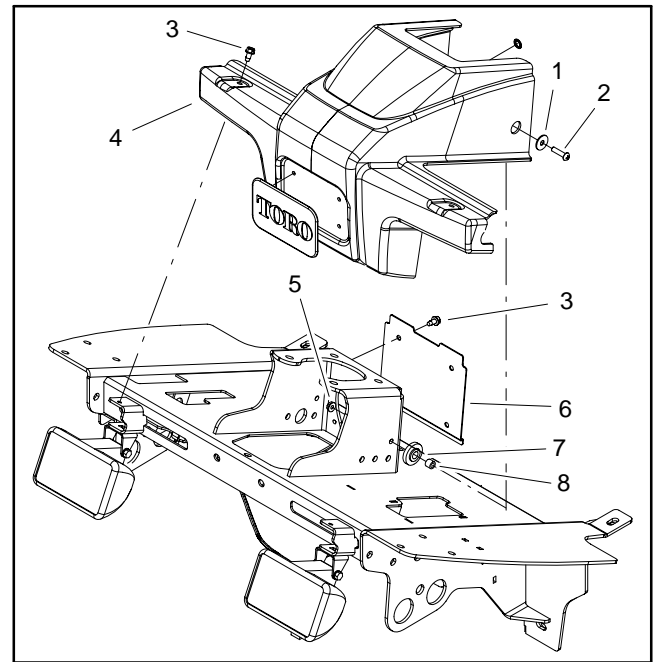
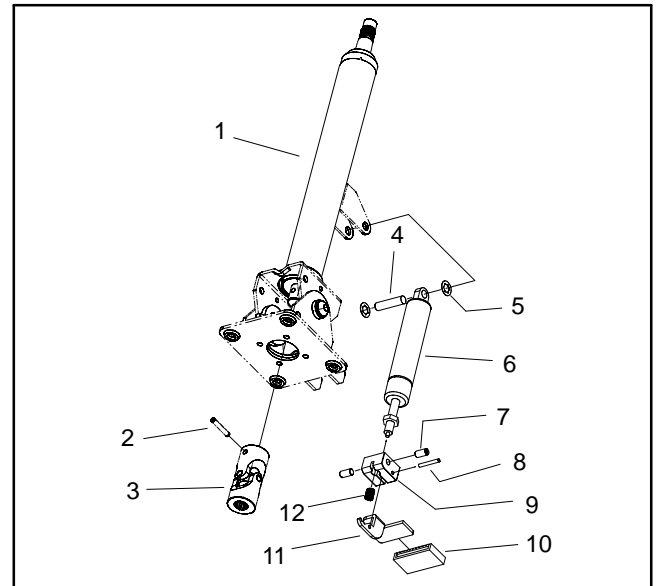

Figure 4
Figure 5
5. Remove platform shroud from machine to allow access to steering column fasteners (Fig. 4).
D. Locate and retrieve two (2) rubber bushings and spacers.
8. Loosen and remove four (4) socket head screws (item 6) that secure steering control valve to steering column.
9. Loosen and remove four (4) socket head screws (item 17) and flange nuts (item 7) that secure steering column to machine.
11. Disassemble steering column assembly as needed using Figure 5 as a guide.
2. Slide steering column onto steering control valve. Secure steering column in place with four (4) socket head screws (item 17) and flange nuts (item 7).
3. Secure steering control valve to steering column with four (4) socket head screws (item 6).
5. Place rubber bushings and spacers into holes of platform shroud (Fig. 4). Position shroud in place and secure with removed fasteners.